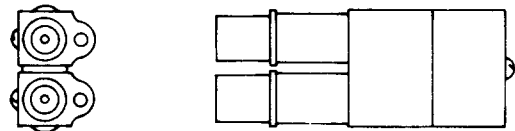

Fig. 25—543A Jack
2.21 543A: The 543A is a coaxial-type twin jack (Fig. 25) which has coaxial designed inner and outer contacts. One end of each jack is designed to be used with the 358A and similar-type plugs. The other end of each jack is designed for a solderless shield connection to a miniature coaxial cable by means of a sleeve which is furnished as a loose part with the jack. The jack is designed for mounting in jack mountings such as the 185 and 230A. The mounting lugs on the two individual jacks may be positioned for mounting so as to extend back-to-back, or in the same direction, side-by-side, or at right angles to each other. The outer contacts are connected together. A removable coverplate is furnished for use in covering an unused cable entrance hole. The jack construction permits strapping of the inner contacts. The 543A jack is used on the J68858 L Supergroup Multiplex Bay of the Toll Systems.